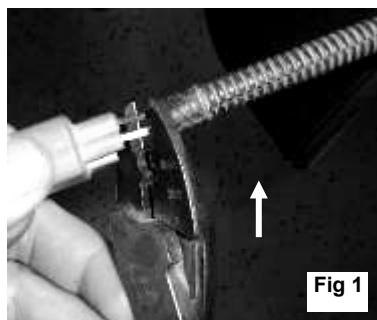
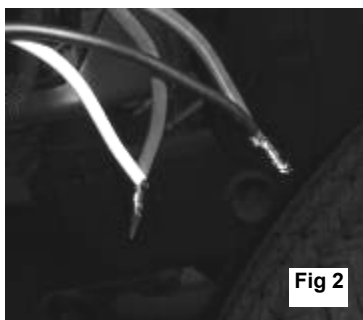
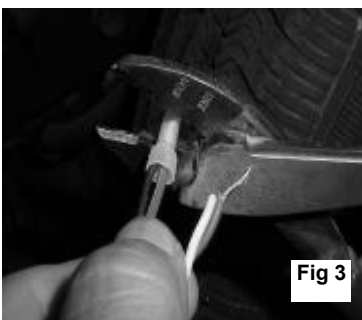

Fig 1
Fig 2
Fig 3
1. Cut the two wires at the base of the factory turn signal light housing. **Fig 1** Discard factory turn signal light.
2. Strip back the insulation and twist the factory wiring onto the wiring in the supplied marker light. **Fig 2**
4. Once the light is tested and working crimp a supplied wire connector (N) onto each lead. **Fig 3**
Working on the back side of the top rear insert (**E-1**) Insert supplied hex head bolt (H) through the hole in the insert in position 2 and 5. Fig 1 Insert supplied L bracket (K) on to hex head bolt Fig 2. Start supplied locknut (I) onto bolt Fig 3. Tighten down with 3/8 socket Fig 4.